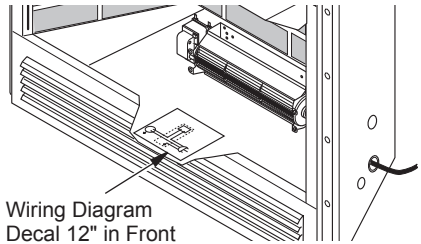

Figure 28 - Location of Wiring Diagram Decal (Model May Vary From Illustration)
10. Peel off backing paper and stick supplied wiring diagram decal on firebox bottom approximately 12" in front of blower (see Figure 28).
- Peel off the backing paper and stick the supplied wiring diagram decal on the firebox bottom approximately 12" in front of the blower (see Figure 28, page 18).